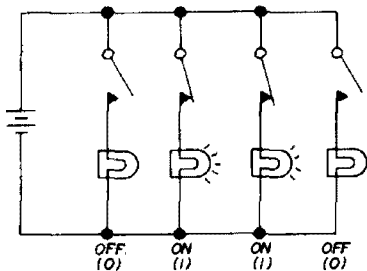

fig. 2. Use of four bulbs and switches to represent a binary number.
Assume four bulbs are used to obtain a binary representation of a decimal number as in fig. 2. How would you use the switches to indicate decimal number 6 in binary form? The binary value for decimal 6 is 0110. This would be indicated by closing switches 2 and 3. Therefore bulb 1 would be off, bulb 2 on, bulb 3 on and bulb 4 off.
Various codes based on the binary (1) and (0) concept have been evolved to meet the requirements of digital equipment operation and objectives. A pure and simple code which is used extensively is known as the binary-coded-decimal (BCD). Four binary bits are employed. It is said to have a weight of 8, 4, 2, 1 in the order of digits from left to right as shown in table 1 and fig. 2. Each digit position has a definite value (weight). In the pure binary case it is 8, 4, 2 and 1 for a four-bit character. Conversion to decimal values involves simply adding the weights of the digits. For special needs there are various other types of weighted and unweighted codes. Some codes include
The closed position of each switch in the circuit of fig. 2 is customarily called the *on* position; open is the *off* position. However, in the language of two-stage or two-logic Boolean algebra (the base upon which computer systems evolved), the closed position could be designated *true* and the open position *false*. True corresponds to binary logic 1; false, to binary logic 0 in switching systems.